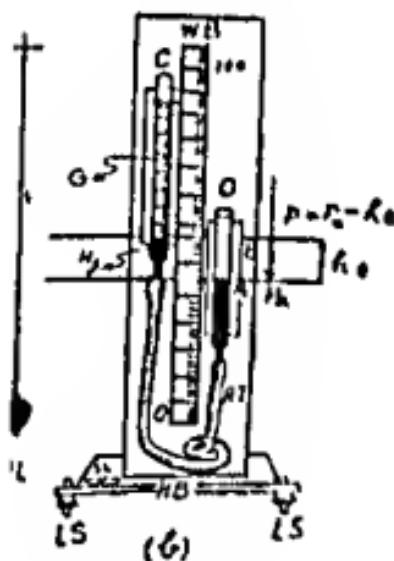

FIG. 3-2
6. Then slide the tube O in such a way that the mercury level in O is lower than that of C and in these cases the gas pressure is less than that of atmosphere as shown in the fig. 3-2. Take down at least six readings when the gas pressure is less than the atmospheric pressure. In these cases the gas pressure  $P = \text{atmospheric pressure } P_a - h$ .